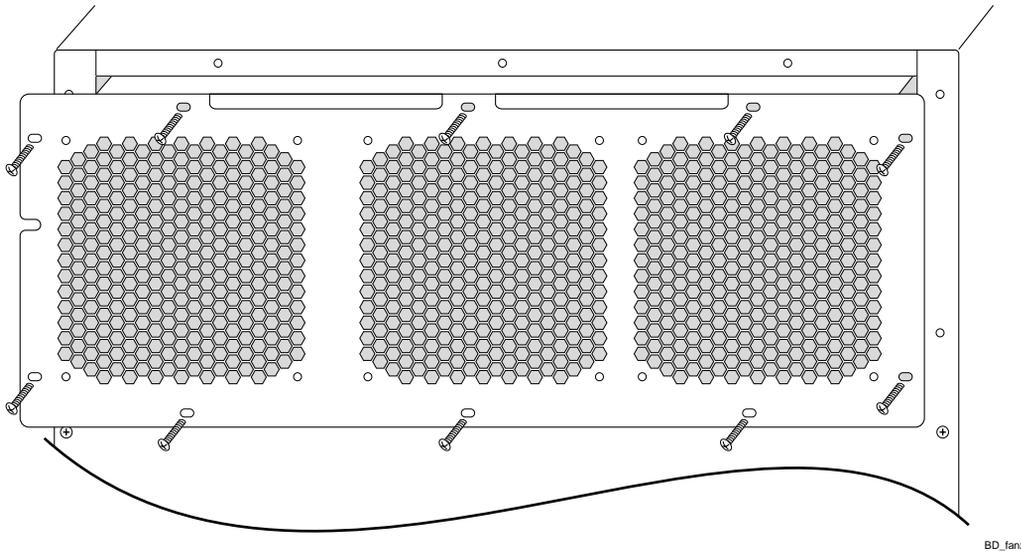

Figure 3-2: Removing the fan tray
- 1 Unscrew the ten screws securing the fan tray to the chassis, as shown in Figure 3-2.